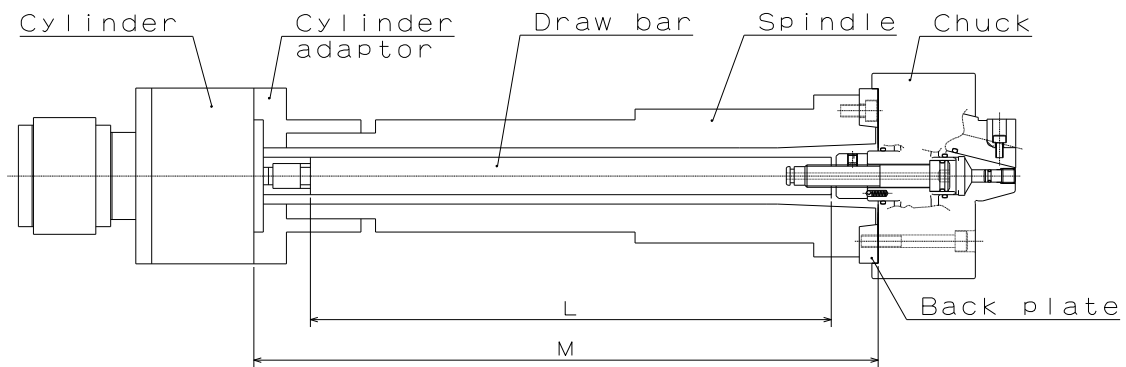

Fig.11
- Fig.11 shows the case of the JIS short taper standard.
The dimension L in Fig.11 is determined from the distance M between the cylinder adapter and the back plate.